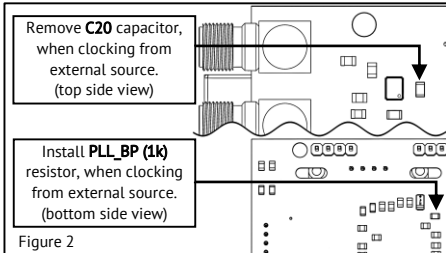

Figure 2
- From an external source, when using it, **make sure that capacitor C20 is removed** (Figure 2), and **resistor PLL_BP 1 kOhm is installed**. To achieve the best results, refer to Table 1.
When using an **external clock source**, the signal is fed to the SMA connector labeled "**REF CLK IN**", when using it, **make sure that capacitor C20 is removed** (Figure 2), and **resistor PLL_BP 1 kOhm is installed**. To achieve the best results, refer to Table 1.